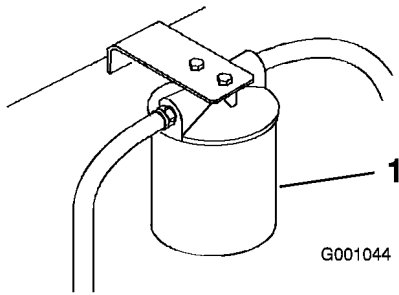

Figure 53
3. Place drain pan under filter, remove the old filter and wipe the filter adapter gasket surface clean (Figure 53).